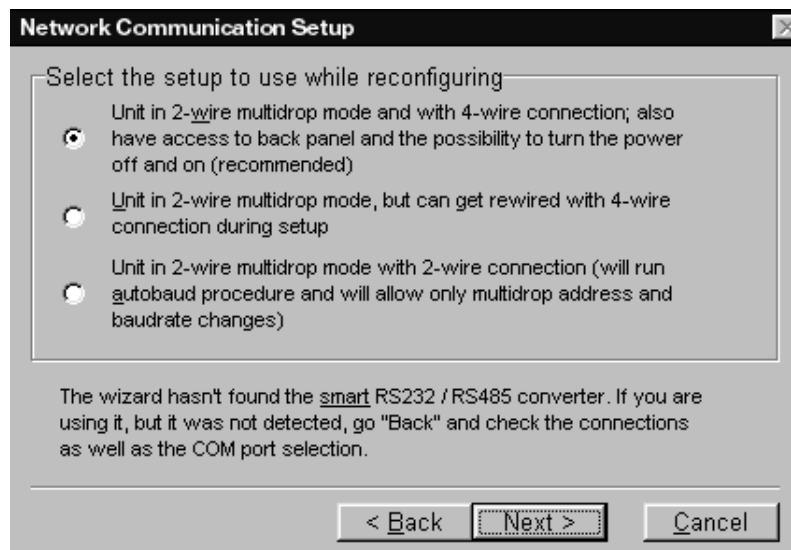

Figure 3-12: 2-Wire Setup Screen
1. After you click on the Next button a screen similar to Figure 3-12 displays.